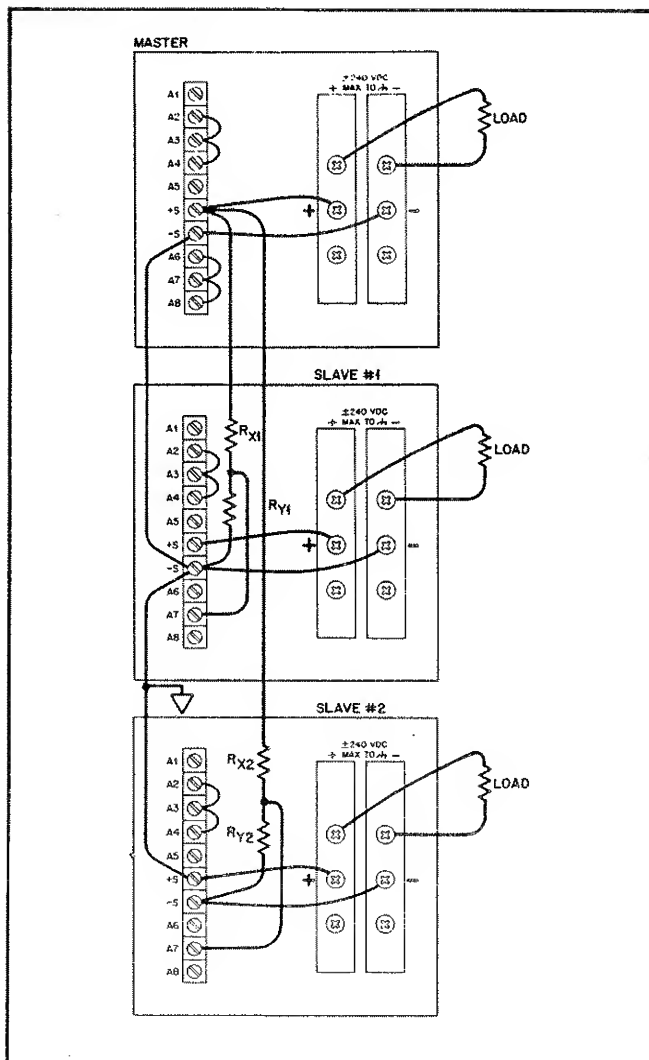

Figure 3-18. Auto-Tracking Operation, Positive and Negative Outputs
3-84 Figure 3-18 shows the interconnections required to provide both positive and negative outputs from an auto-tracking combination. As can be seen, the only difference from standard auto-tracking operation is that the + output terminal of slave #2 instead of the - output terminal is connected to the common bus. There is no limit to the number of supplies that can be operated in either auto-tracking configuration.
**3-89** For auto-tracking operation with both positive and negative outputs, as shown in Figure 3-18, the equation in Paragraph 3-85 is used to determine the values of  $R_X$  and  $R_Y$  for the slave providing positive outputs, and the equation in Paragraph 3-73 is used to determine the values of  $R_X$  and  $R_Y$  for the slaves providing negative outputs.